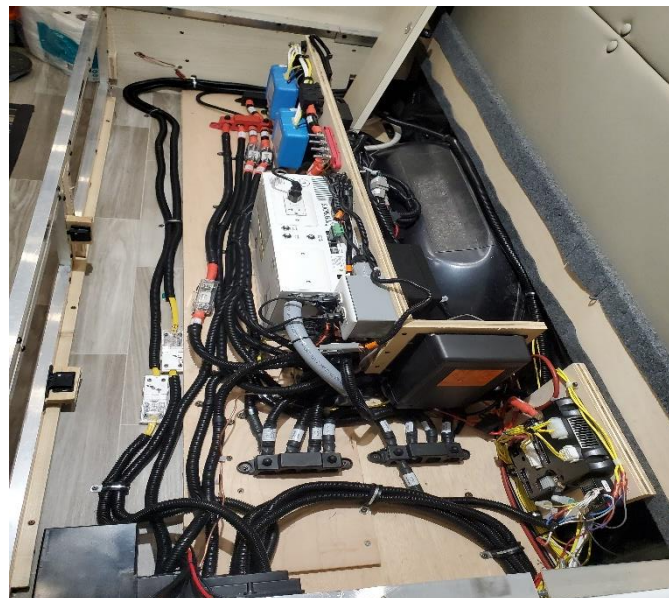

Figure: 4
4. The main electrical system is located on the passenger rear bed box and can be accessed by lifting the bed lid to expose the main electrical components. Proper securement / arrangement of the electrical system components can be seen in Figure 4